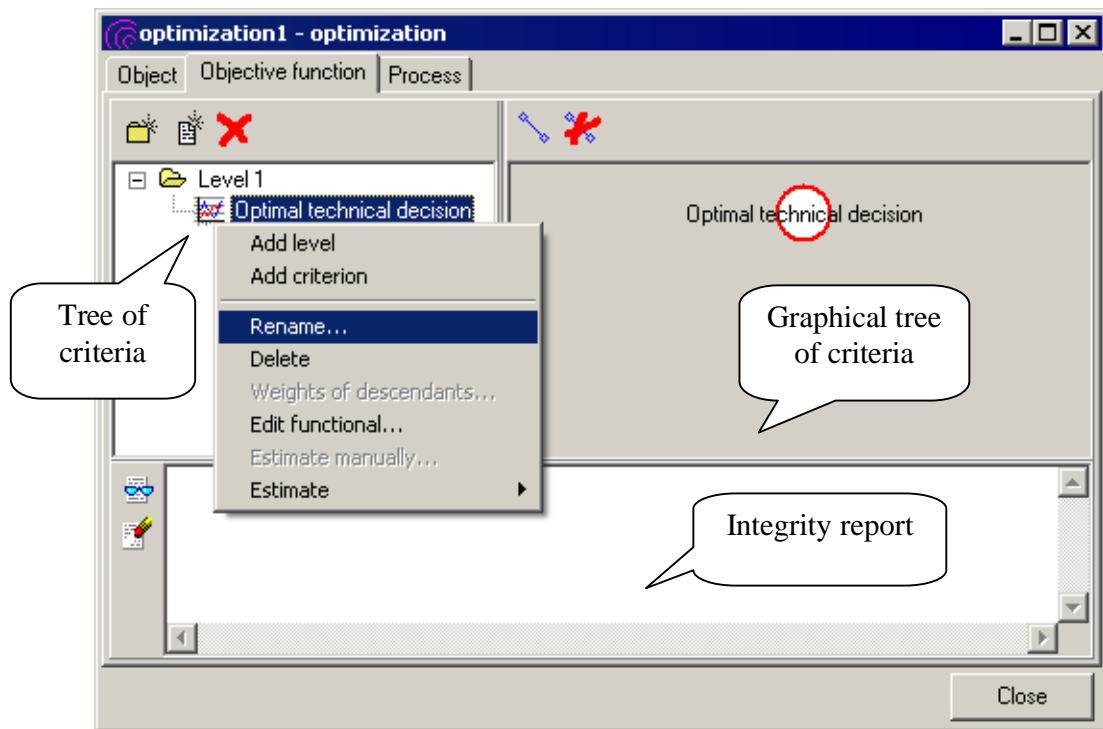

Figure 5.11. Objective function
By default it contains the only criterion – *Optimal technical decision*, see Fig. 5.11. Let us rename it to **Reaction force**.
2. Select the **Optimal technical decision** criterion in the tree of criteria and select **Rename** from the context menu, see Fig. 5.11. Input **Reaction force** and press **Enter**.